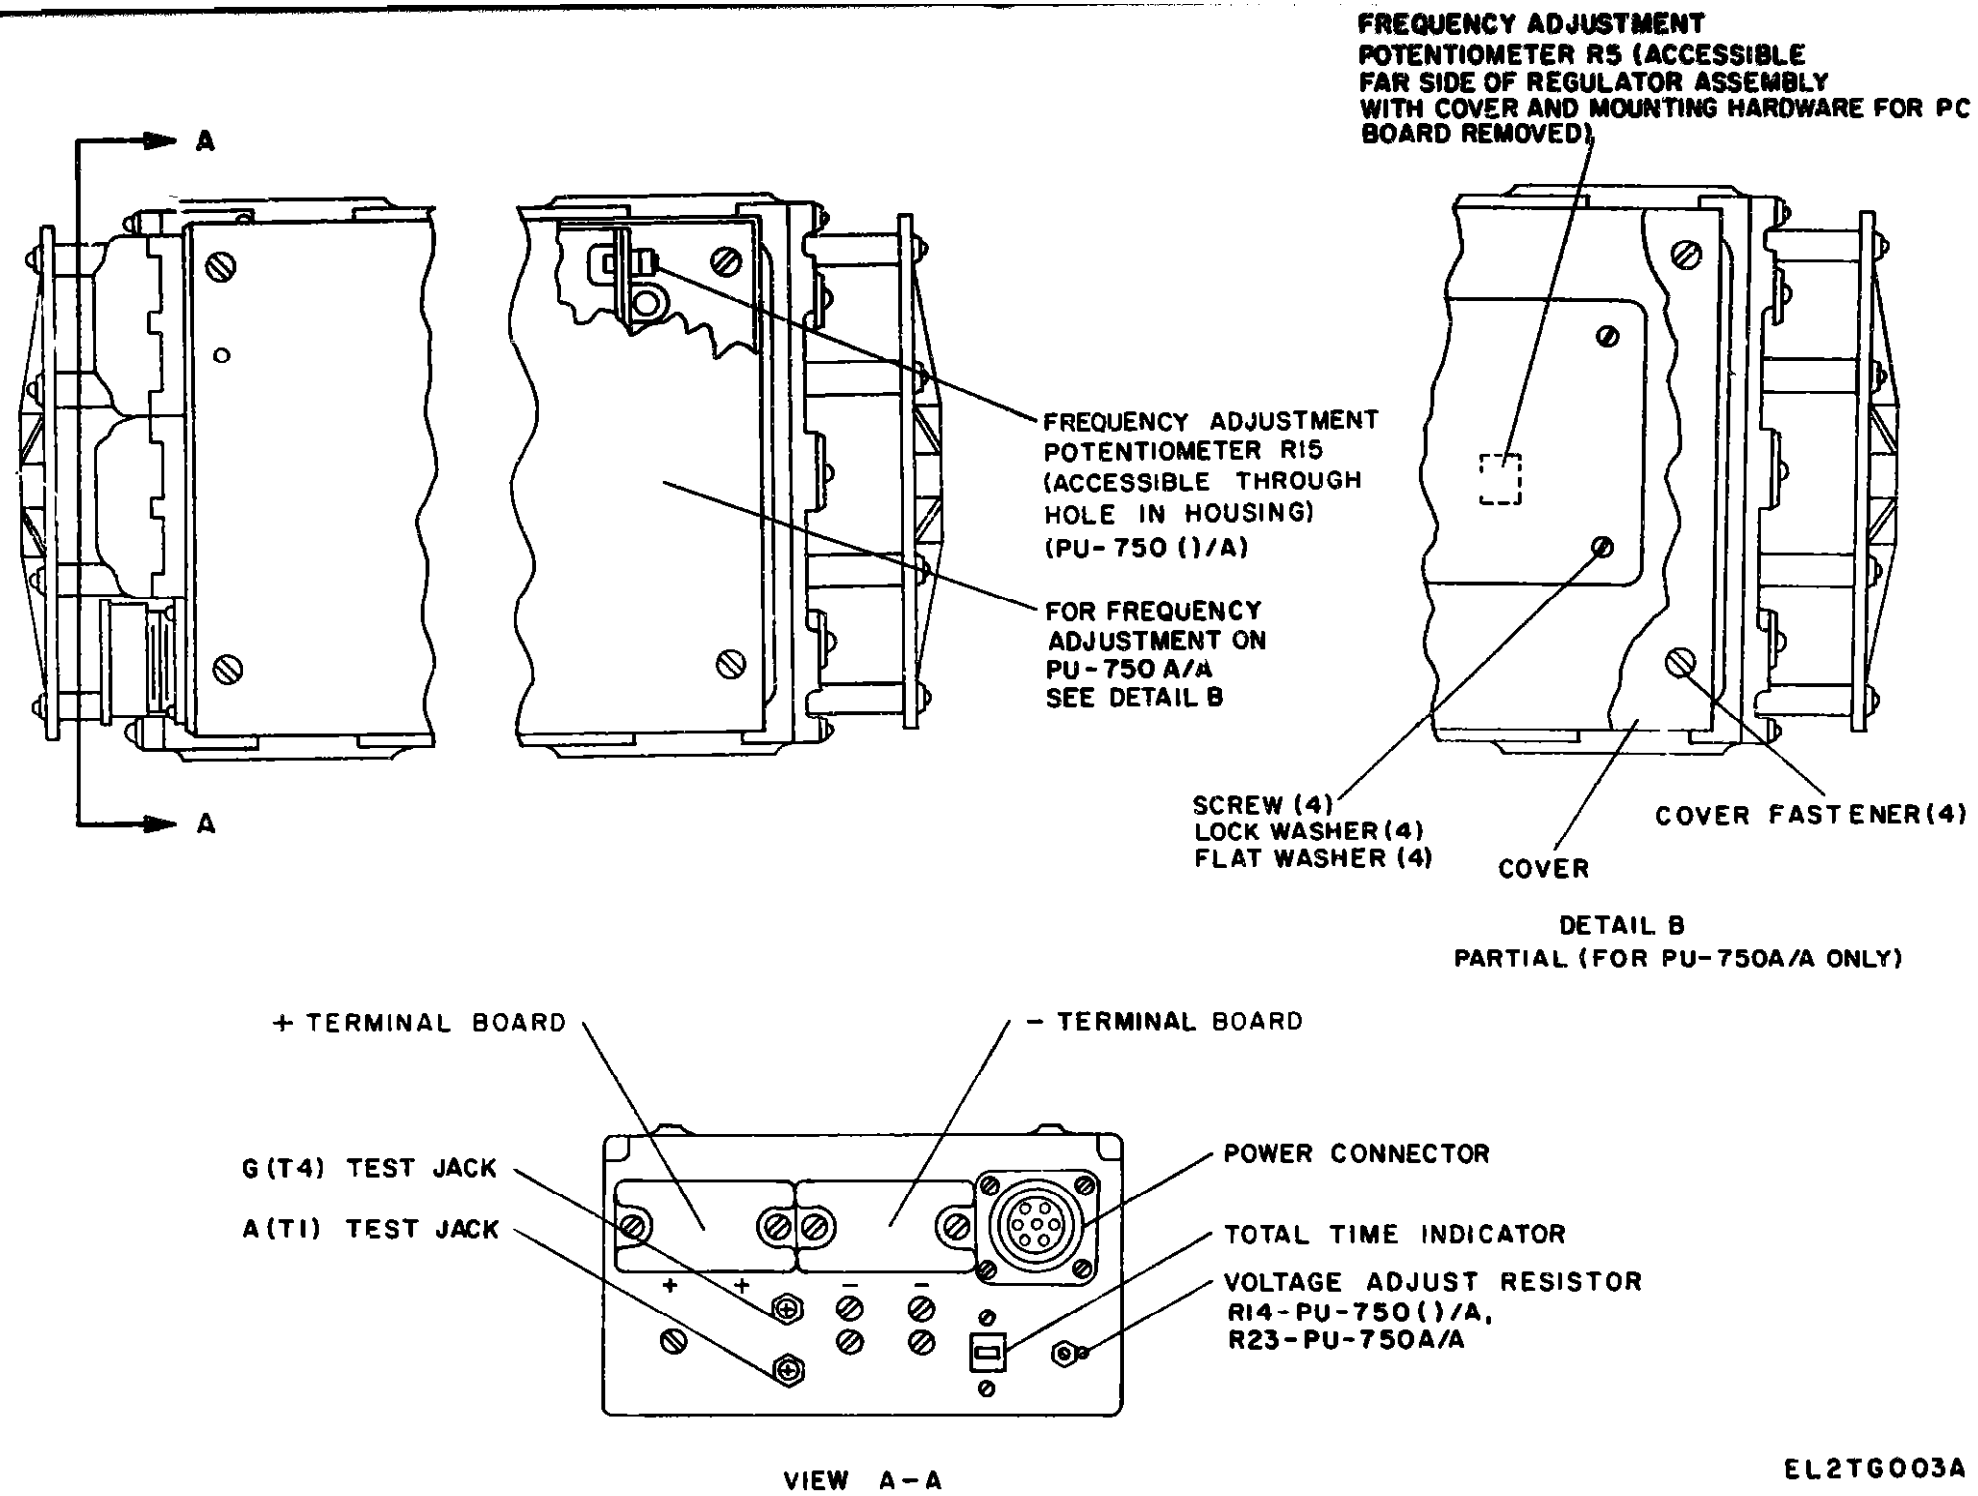

Figure 3-1. Voltage and frequency adjustments
(1) Turn the main power and other appropriate switches in the aircraft to the ON position. Check to see that the motor-generator starts and that the aircraft dc voltmeter reads 28 volts.
(2) Plug the prods of electrical power test set AN/UPM-93 into the motor-generator test joint jacks (fig 3-1). Remove the control box cover.
(3) Adjust the AN/UPM-93 range selector to the 150 position.
(4) Operate the motor-generator at no load (no ac components of the aircraft operating). Loosen locknut on voltage adjust resistor R14 or R23 as applicable (fig 3-1) and turn through its full range. Voltage indicated on the voltmeter of the AN/UPM-93 must not be less than 110 or more than 120.
(5) Apply a full load to the motor-generator by turning on all the aircraft equipment that operates from the ac supplied by the motor-generator (Refer to the applicable aircraft technical manual). Repeat the procedure given in step (4). No variation should occur in the adjustment range specified. Turn off the aircraft ac components and set voltage adjustment resistor R14 or R23, as applicable, so that a 115-volt output is indicated on the voltmeter of the AN/URM-93. Tighten the locknut.
(6) On 4B48-6-A, operate the motor-generator at no load and turn frequency adjust resistor R15 (fig 3-1) through its full range. The limits, as indicated on the frequency meter of the AN/UPM-93, must be